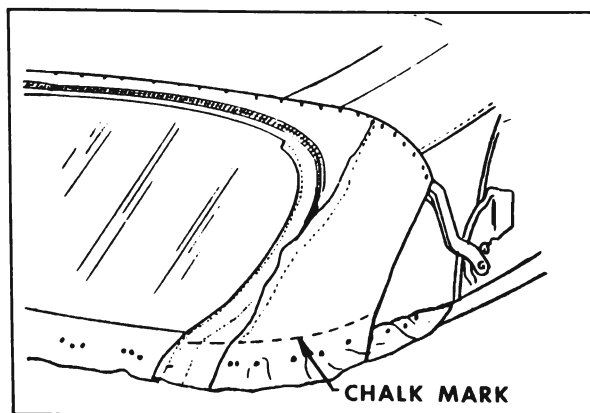

Figure 7-37—Tacking Stay Pads
12. Tack lower ends of back curtain stay pads over watershed to rear trim stick using chalk lines on pads as reference guide lines to establish proper stay pad contours (see Figure 7-37). Trim edges of stay pads; then install remaining portion of watershed over stay pads.